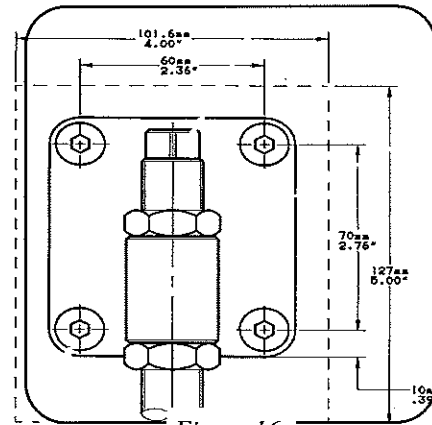

Figure 16
1. Verify the hole location for the upper rotating column bracket mounting (*Figure 16*) and correct if needed. Attach the bracket with the supplied hardware.